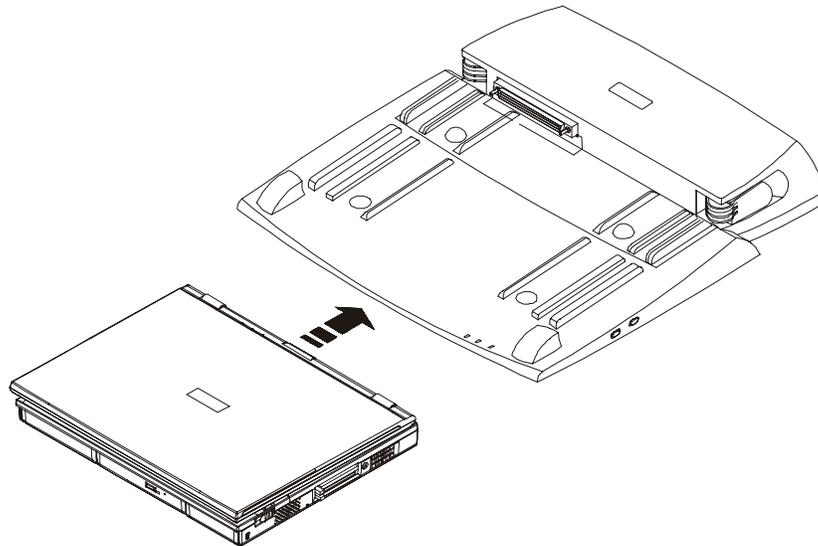

Figure 6-11: Connecting the Notebook to the I/O Port Replicator
3. Locate the two grooves on the bottom side of the Notebook. Place the Notebook on the Port Replicator's docking platform, aligning the grooves with the Replicator's docking rails (see **Figure 6-11**).